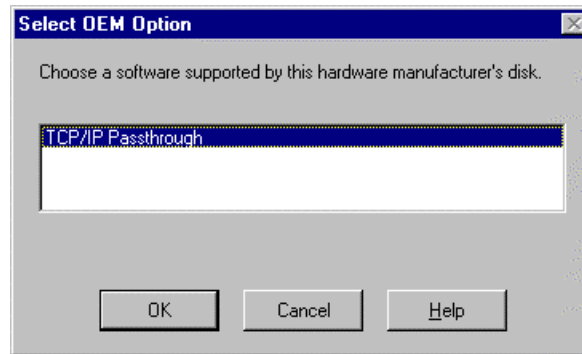

Figure 9-5. Select OEM Option
3. The Select OEM Option dialog box will display (Figure 9-5). TCP/IP Passthrough should be selected. Click **OK** to invoke the install.